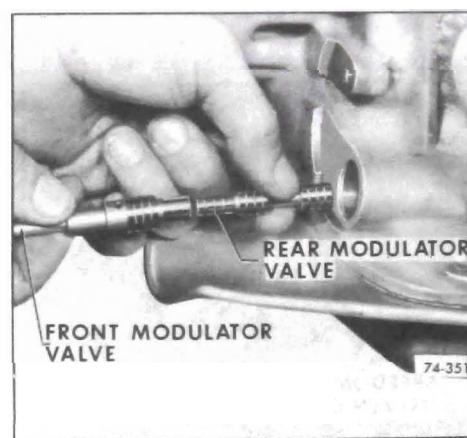

Figure 74-351
1. Slide rear modulator valve into front valve, then install into case. See Figure 74-351.